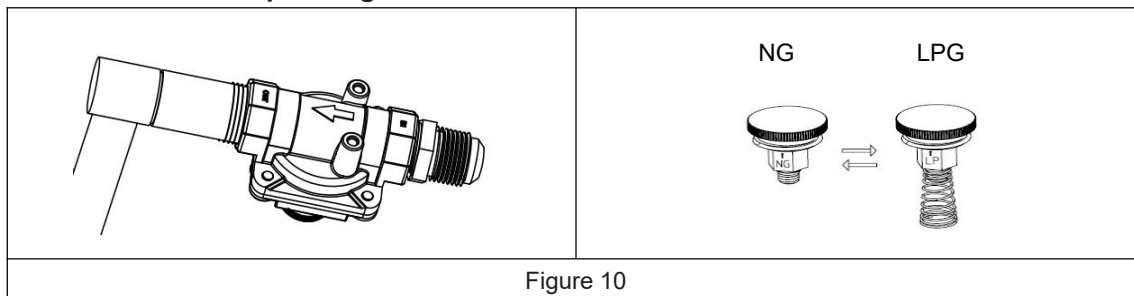

Figure 10
- 2) When the gas pressure regulator is in NG state and need to be converted to LPG state, counterclockwise unscrew the end cap under the gas pressure regulator, and then counterclockwise unscrew the marked NG threaded rod, reverse the threaded rod, turn the LP arrow upwards and tighten it to the screw cap (see Figure 10), then install the cap back to the gas pressure regulator. The gas pressure regulator gas conversion needs to be used with the accessory kit (See Figure 11 for detailed nozzle specifications).
- 8) Similarly, when use in NG status, turn the marked NG arrow upwards and tighten it to the screw cap (see Figure 10). Repeat the above operation. The outlet pressure requires to be 4 ± 1 in w.c..